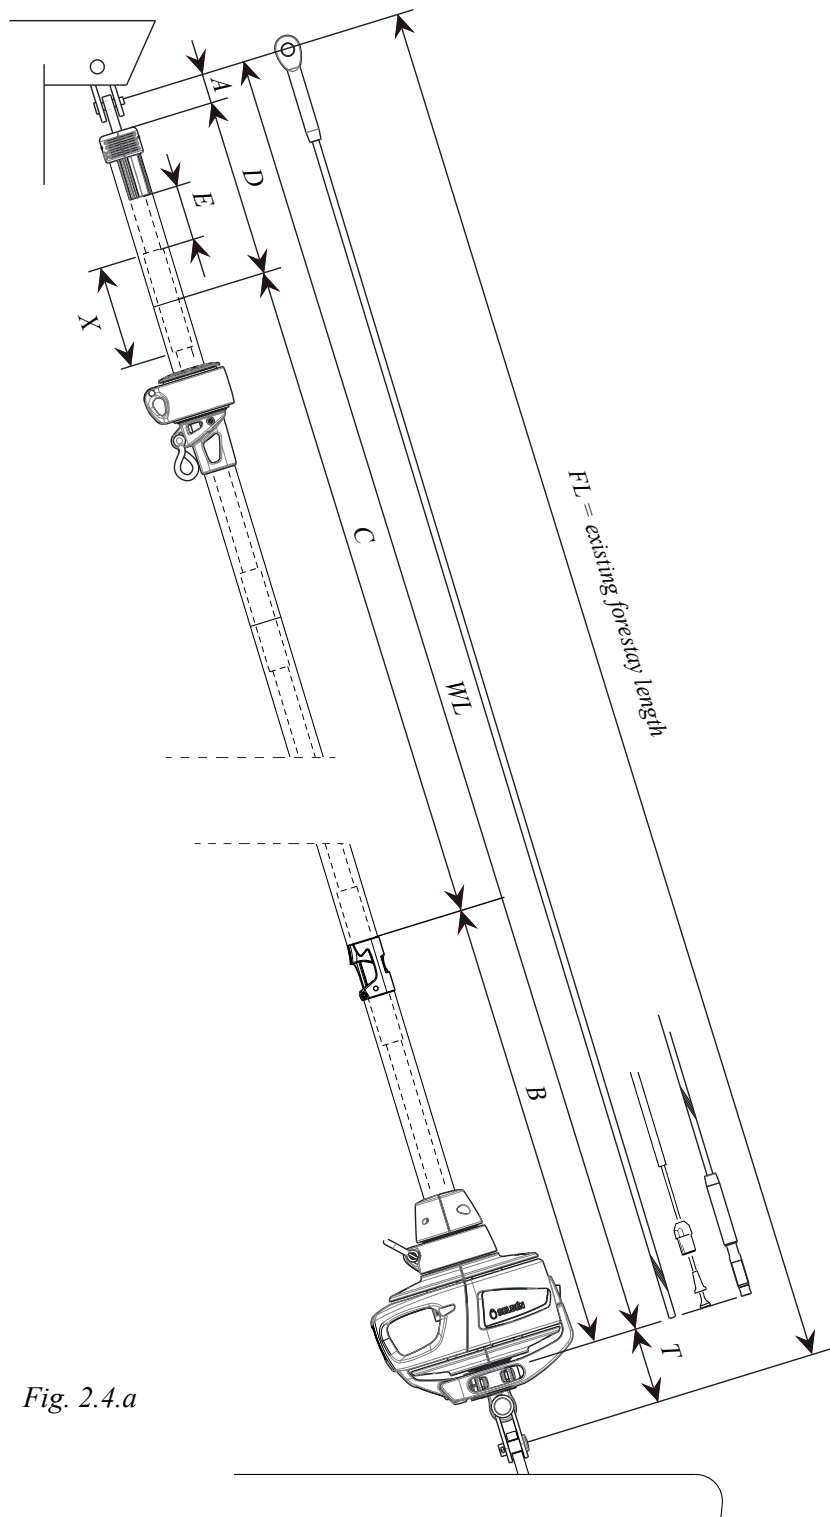

Fig. 2.4.a
If a stud-terminated stay is to be manufactured by a local rigger it is important to note that WL in this case equals the length of the finished stay, from eye to end of stud, as shown in fig. 2.4.a. WL is calculated in table 1.
| FL | Existing forestay length (FL), including rigging screw (See Fig. 2.4.a) | | | | 16.243 |
| WL | Cutting measurement. The new forestay wire is to be marked at this point. (For stays with swaged stud, WL equals the length of the finished stay as shown in fig 2.4.a and NOT the cutting length) | | | = | = 16.068 |